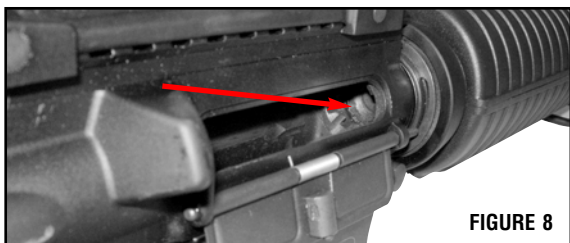

FIGURE 8
- Look into the receiver and check chamber to be sure no cartridges are visible. (Figure 8)